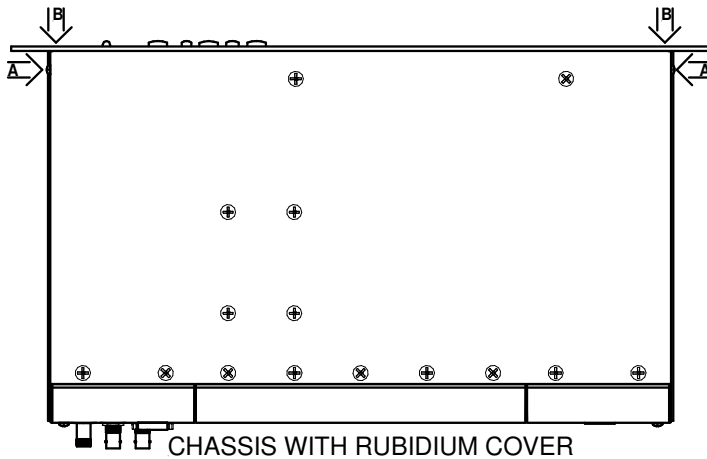

FIGURE 4 - Rubidium Chassis Cover Screws
1. Verify Replacement Cover Kit contents and refer to Figure 4 for screw locations: